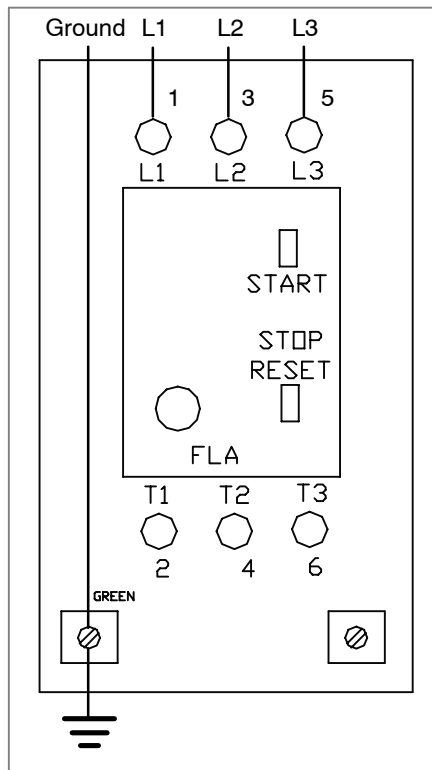

Figure 19
2. Insert line cord through grip (AJ) and tighten nut.
3. For correct three-phase motor shaft rotation, connect line phase sequence L1, L2 & L3 to terminals as shown (Figure 19).
**NOTE:** The motor ground wire is also attached to left terminal marked  $\perp$  (Figure 19).
4. Attach ground wire to lower left terminal marked  $\perp$  (see Figure 19).
6. Attach ground wire to lower left terminal marked  $\perp$  (see Figure 19).